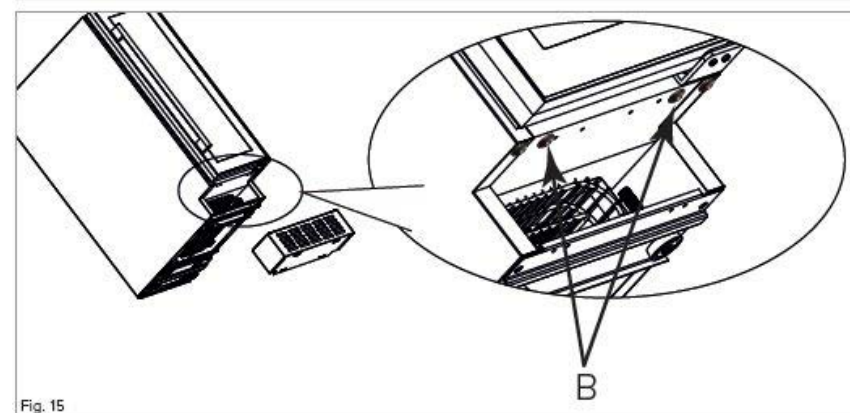

Fig. 15
5. If present, remove the screws shown by arrows and marked as 'B' in Fig. 15. These are not needed.